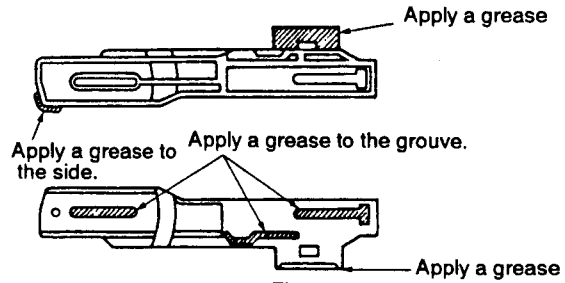

Fig. 12
- ③ Install the cam gear in the position where projection **E** of the cam gear comes to the front of the follow gear installation shaft.
- ① Grease the spring slanting cam. (Fig. 12)